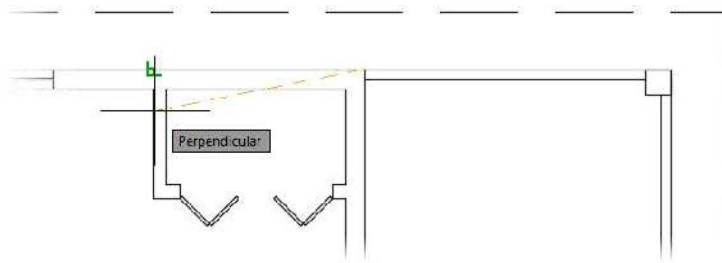

FIGURE 12.15: Selecting the wall with the Perpendicular osnap
4. Activate the Perpendicular osnap, place the cursor over the outside of the closet wall as shown in Figure 12.15, and then click.